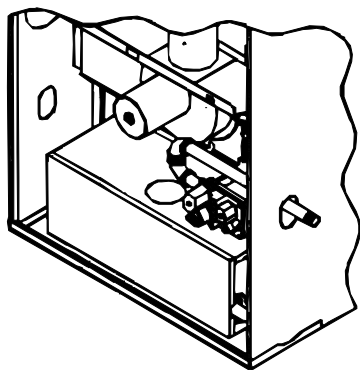

Figure 15
- Straight pipe to reach exterior of furnace (Figure 15).